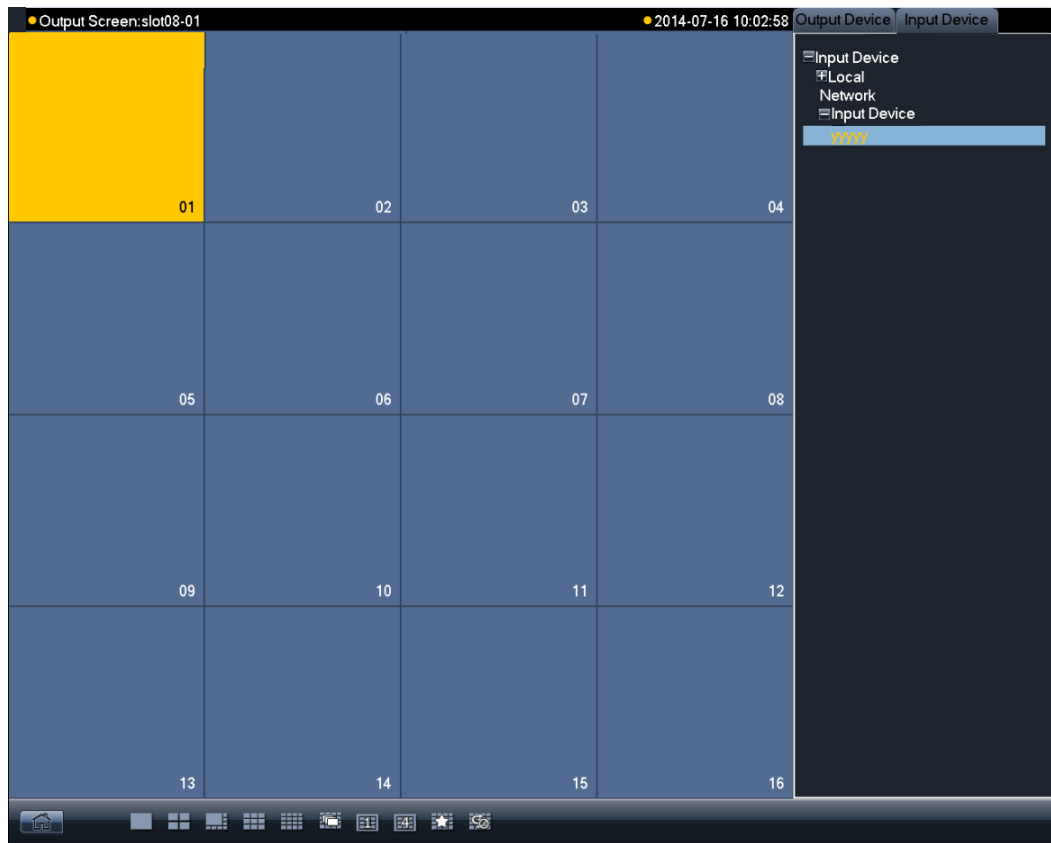

Figure 4-14
Step 6 In output list, double click output channel name and select one output channel. Its corresponding window turns yellow, as shown in Figure 4-14.